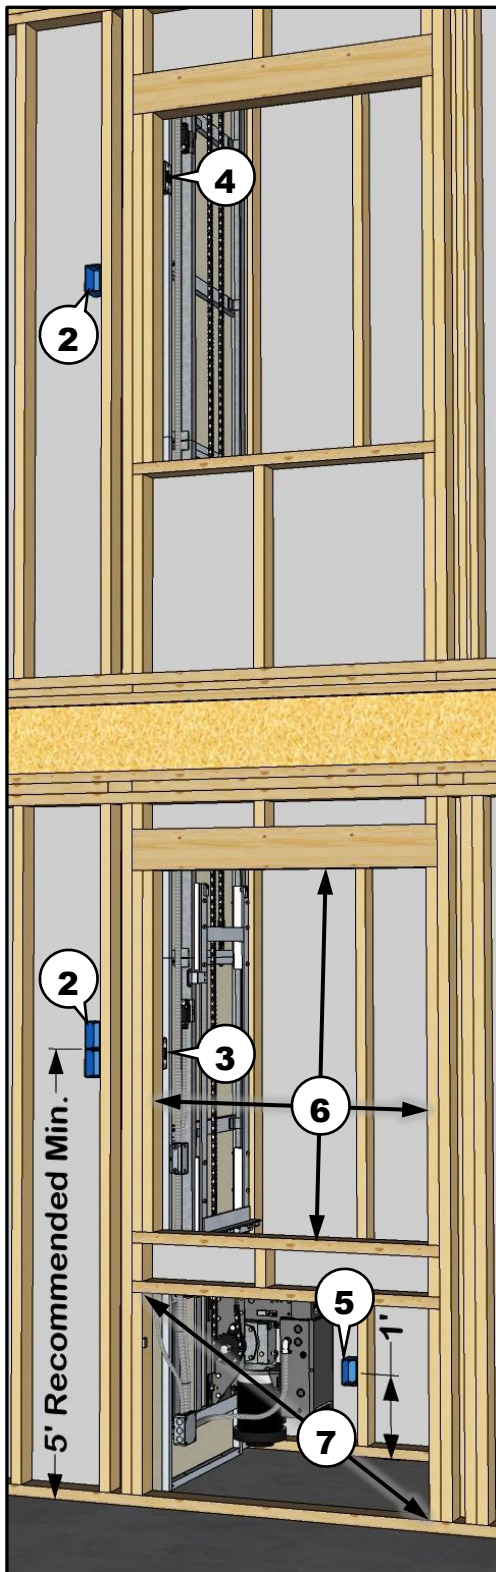

Figure 24
- 2 Place push button boxes per owner's instruction, making sure there is enough wire to reach the box. (see Figure 24)
- 3 Rough-in wire for push buttons from bottom floor low voltage J-box to bottom floor push button box. (see Figure 24)
- 4 Rough-in wire for push buttons from top floor low voltage J-box to top floor push button box. (see Figure 24)
- 5 Install power supply junction box 12 inches (0.3 m) above floor on wall adjacent to mounting wall. (see Figure 24)
- 7 Removable access panel or door for servicing motor, brake, clutch, or car adjustment. (see Figure 24)